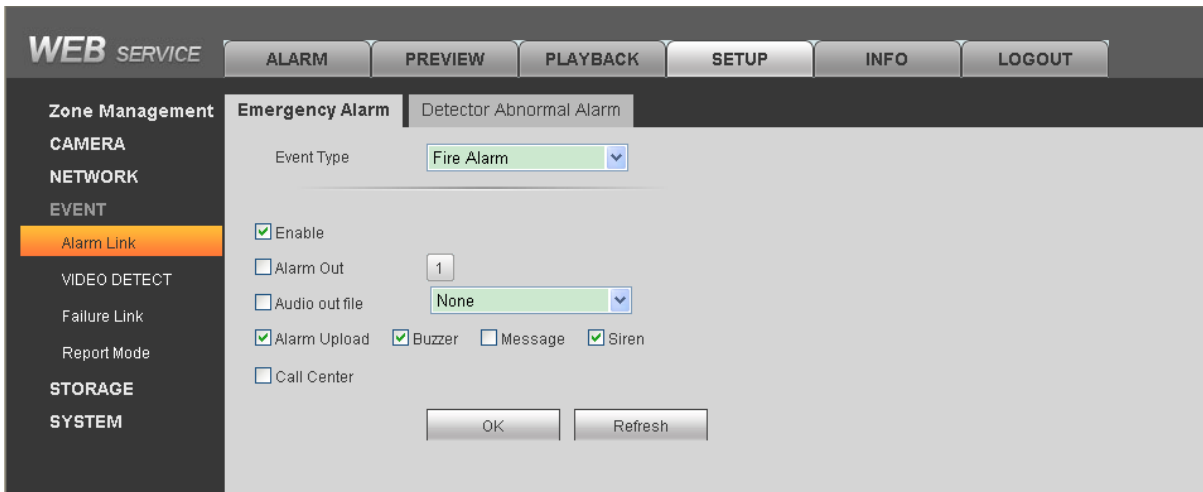

Figure 4- 7
Step 1. Select SETUP>EVENT>Alarm Link, click Emergency Alarm. See Figure 4- 7.